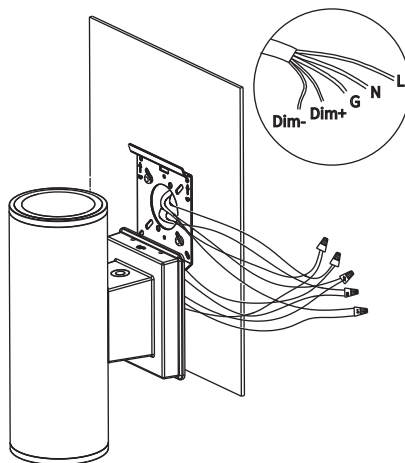

Figure 5
- Make appropriate electrical connections according to the wiring diagram. (Figure 5)